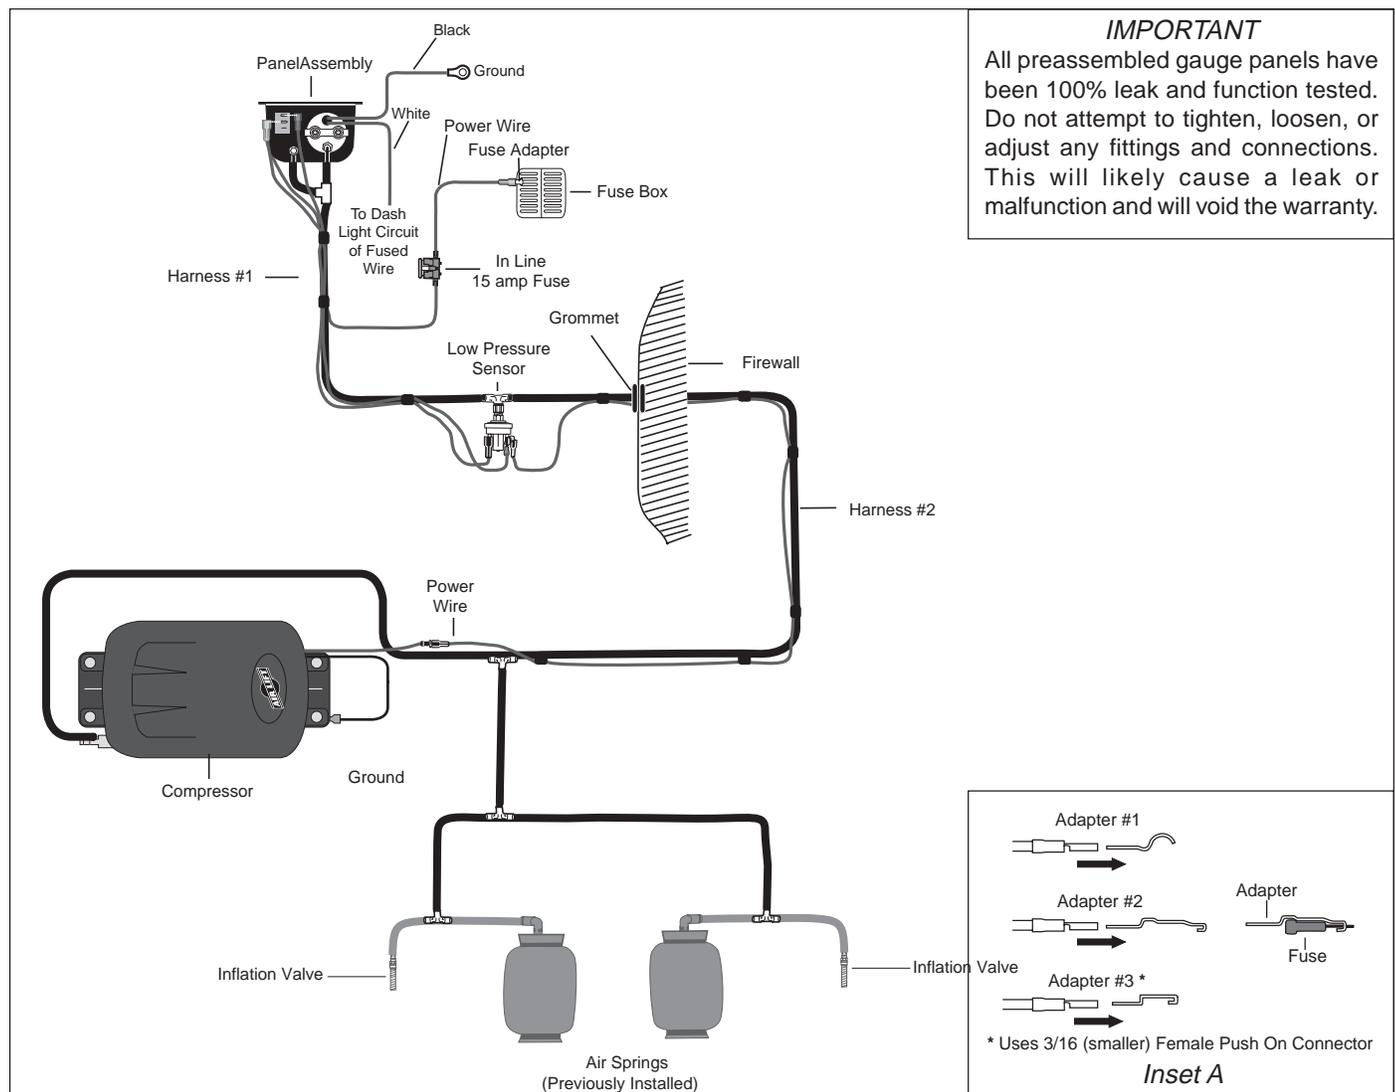

Figure 1
2. Now install the compressor unit. Hold the compressor in the recommended location and attach the mounting brackets to the vehicle with the provided silver self tapping screws. In some cases the mounting area does not provide enough room to use a drill to drive the screws in. It may be necessary to use the mounting brackets as a template to drill $13/64$ " holes through the frame first and then use a $7/16$ " nut driver to install self tapping screws. *NOTE: Attach the ground wire to one of the screws (Figure 1 & 5).*
6. The next connection is between each air spring and the air line "T" fitting located just ahead of the check valve in Harness #2 near the compressor (Figures 1 & 5). With the air springs deflated, use a hose cutter, a razor blade, or very sharp knife to cut the air line already installed between the air spring and the inflation valve. Install the provided "T" fittings in each air line (Figure 1). Push the air line into each leg of the "T" until you feel a definite "click". The line should go in $9/16$ ". Connect a single length of air line to the open leg of each "T". Cut this piece of air line in half and install another "T" fitting. Connect another length of air line to run from this "T" to the "T" already installed in Harness #2. Avoid heat sources, sharp edges and tight bends (Figure 1).
8. GAUGE LIGHT: Route the white wire for the illuminated gauge to harness number one's fused wire or to a dash light wire circuit and attach with the quick splice provided. Ground the black wire to an adequate ground. Use the additional wire and connectors supplied if longer leads are needed (Figure 1).